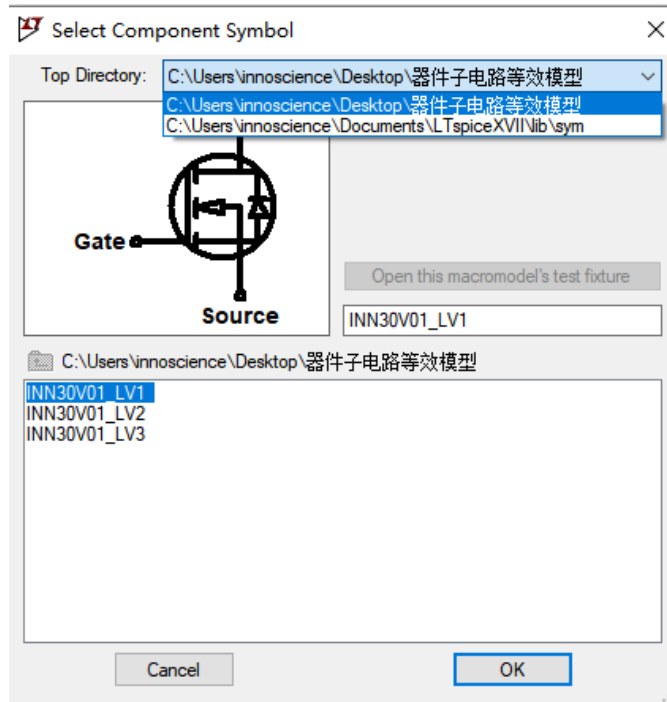

Fig.4. Add the InnoGaN model to the schematic
3. Add InnoGaN model to the schematic. Generally, InnoGaN provides the associated *.lib and *.asy files, and step 1/2 can be omitted. After association, click the component button in the toolbar on the schematic editing interface as shown in the figure below, or press the shortcut key F2, and a pop-up is shown as shown in the figure. Select the InnoGaN model save path in the Top Directory drop-down box, and select the desired device name in the device selection window, as shown in Figure 4.